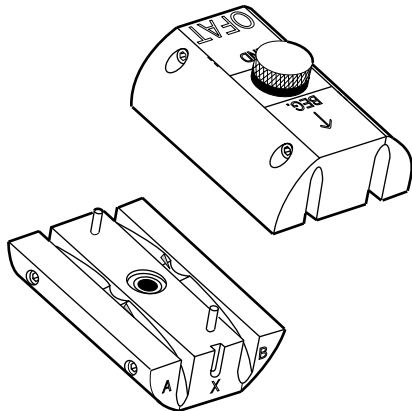

Figure 4
4.1 Loosen the thumbscrew until you can completely separate the halves of the OFAT (Figure 4).